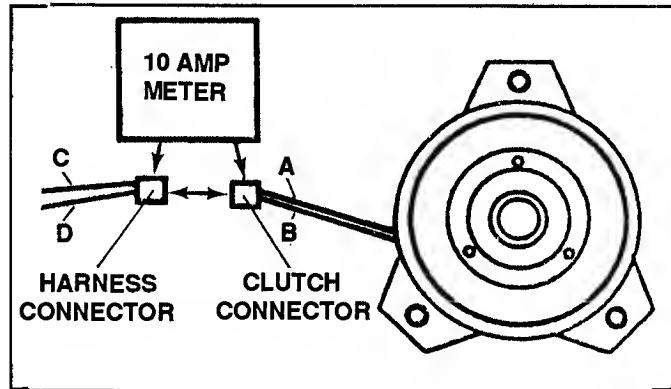

FIGURE 3.16 (CLUTCH CURRENT DRAW)
1. With the engine switch and clutch switch OFF, disconnect the clutch wire connector. See Figure 3.16.